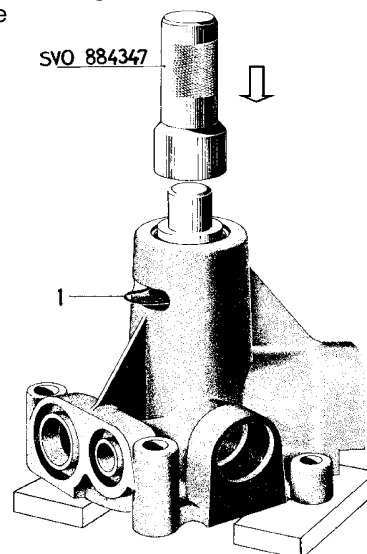

Fig. G3. Removing the shaft and impeller
3. Place the pump in a press. Press out the shaft, the bearing and the impeller with drift SVO 884347. See Fig. G3.